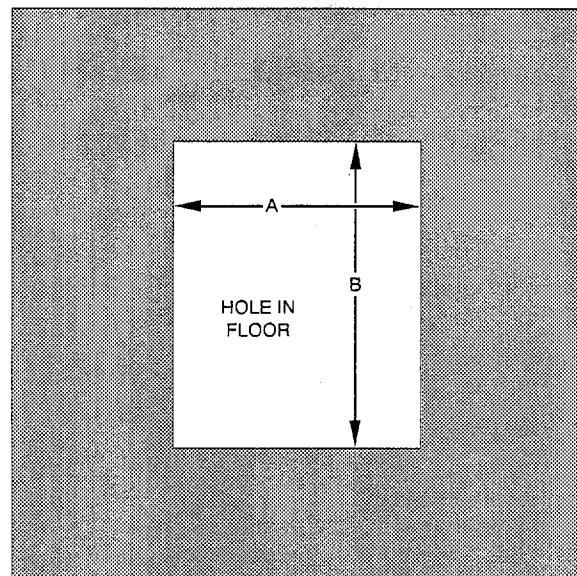

**Fig. 4—Floor Opening for Concrete Slab**
1. Construct hole in floor per dimensions in Fig. 4 and Table 3.